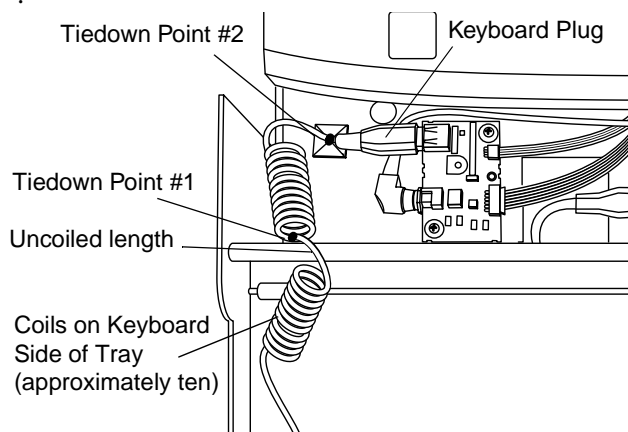

Figure 4. Routing the Keyboard Cable
7. Route the coiled keyboard cable over the vertical edge of the tray assembly. Leave approximately ten coils on the keyboard side (reference Figure 4)
8. Stretch the coil over the edge of the tray so the section of cable from the edge of the tray to the first tie point is uncoiled (reference Figure 4).